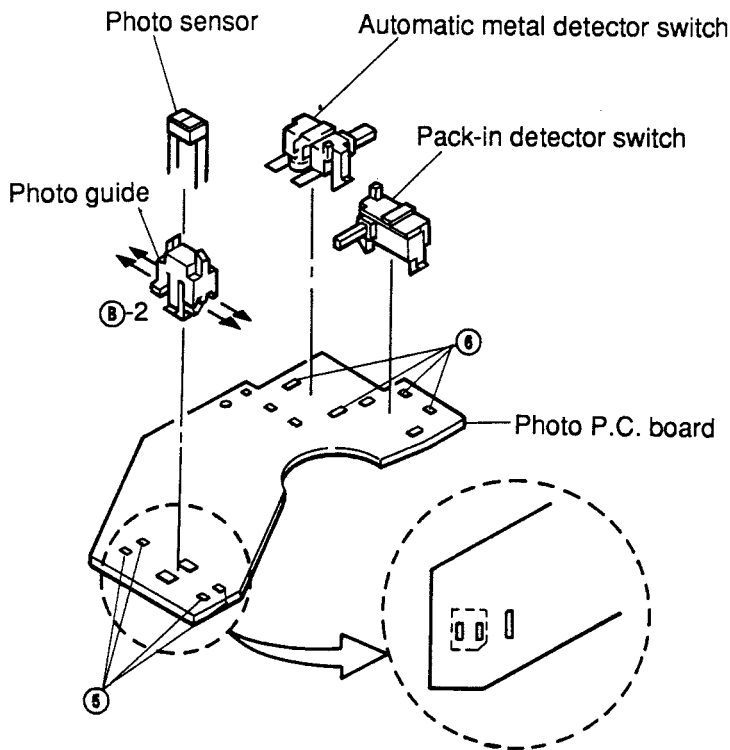

Figure 7
- (1) Remove four solders ⑤ as shown in Figure 7.
- (2) Remove the photo guide together with the photo sensor from the photo PC board as shown in Figure 7.
- (3) Insert the new photo sensor into the photo guide, and bend the legs of the photo sensor in the direction marked ⑧-2 as shown in Figure 7.
- (4) Insert the photo guide into the PC board and solder the legs so that the photo sensor is set as indicated by [] in Figure 7.
- (1) Remove 2 solders ⑥ with which the the switch is fixed as shown in Figure 7.